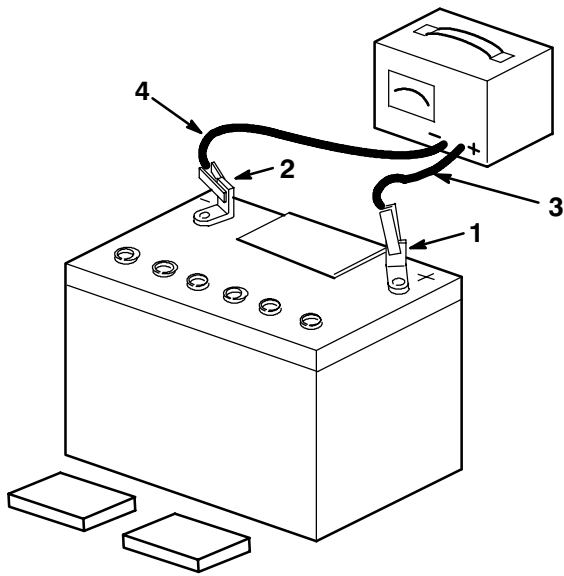

Figure 3
5. Leave the covers off and connect a 3 to 4 amp battery charger to the battery posts (Fig. 3). Charge the battery at a rate of 4 amperes or less for 4 hours (12 volts).
- When the battery is fully charged, disconnect the charger from the electrical outlet and from the negative and positive battery posts (Fig. 3).